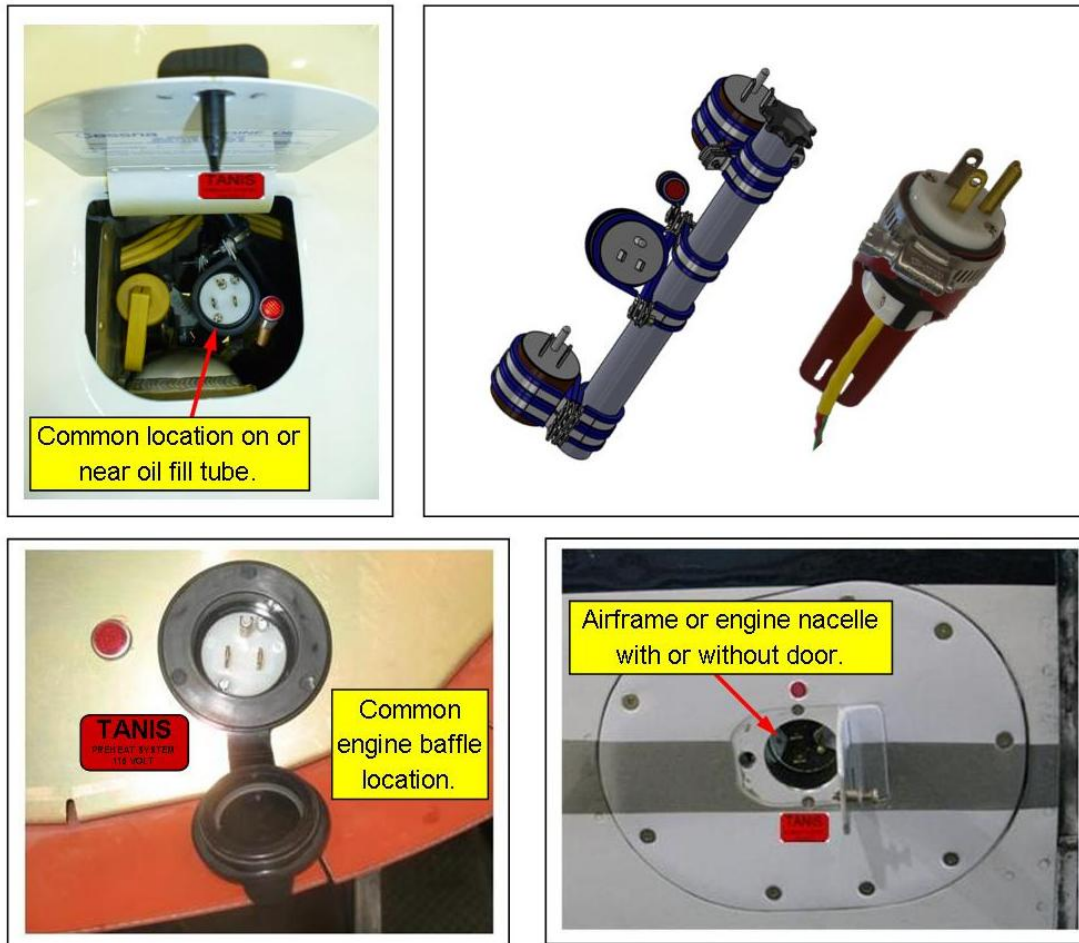

Figure 2 - Examples of plug mounting. Top two pictures depict shore plug supplied with kit, bottom two pictures optional flush plugs configurations.
- a. Shore power plug. Power connection point. Plug is field terminated. Install with cushioned clamps or bracket in accessible location on engine, oil filler-tube, or engine mount. Optional shore power plugs configurations available. **Do not** allow plug to free-hang. Install power indicator light near plug as depicted, with clamp, and/or cable ties (Figures 2 and 3). 230 Volt kits supplied with plug receptacle adapter (TP02829-230), field installed on extension cord supplied by operator.